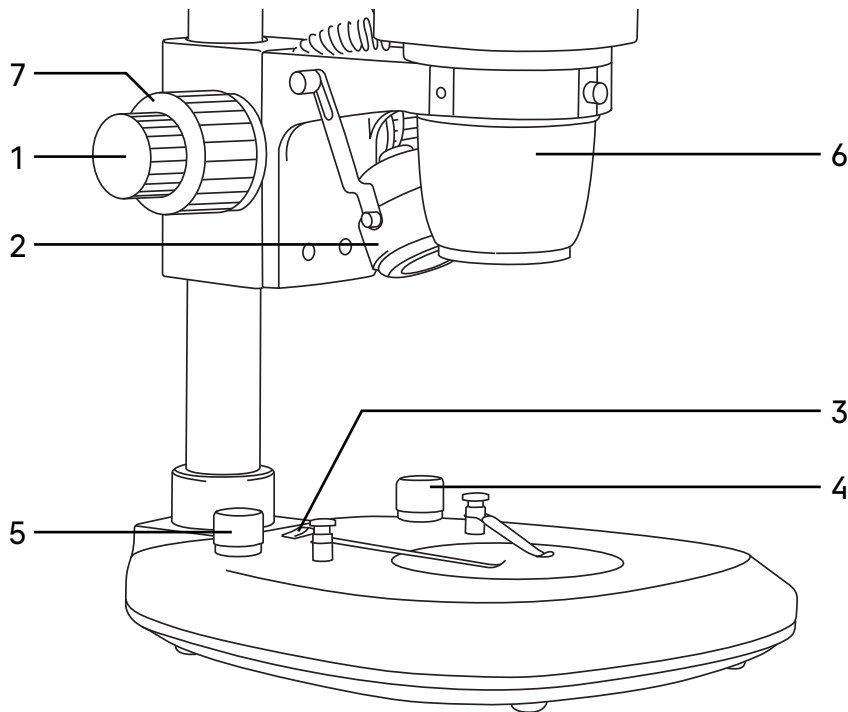

Fig. 2. Switching on the illumination
Turn the ON/OFF switch **3** (Fig. 2) to "-" position (ON). Transmitted light and reflected light illuminators are switched on.
For the reflected light microscopy, the illuminator **2** (Fig. 2) is used, and its light intensity is adjusted by the knob **5** (Fig. 2). For the transmitted light microscopy, the illuminator brightness is adjusted by the knob **4** (Fig. 2).
Before switching off the microscope, rotate the knobs **4** and **5** (Fig. 2) to the minimum.
Use the ring light if you need shadow-free lighting to observe a specimen. The ring light is mounted on the objective **6** (Fig. 2).
Rotate the knobs **1** and **7** (Fig. 2) to move the focusing mechanism so that the distance between the specimen and the objective approximately corresponds to the working distance of the objective according to the specifications given in Table 2.
When using high magnification, use the fine focusing knob **1** (Fig. 2) for accurate adjustment.
With properly adjusted tension, the microscope head does not lower under its own weight. If you need to adjust the tension of the coarse focusing, hold the left coarse focusing knob **7** (Fig. 2) with one hand and rotate the right knob with the other hand to adjust the tension. By rotating it counter-clockwise, you loosen the tension, and by rotating it clockwise, you tighten it. Too high tension can cause inconvenience in the operation.